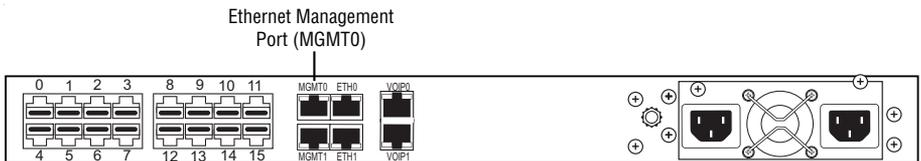

Figure 8. Connecting the management interface
1. Connect the supplied CAT5 Ethernet cable to the management port labeled MGMT0 on the rear of the SmartNode 10100A (see **figure 8** on page 8).